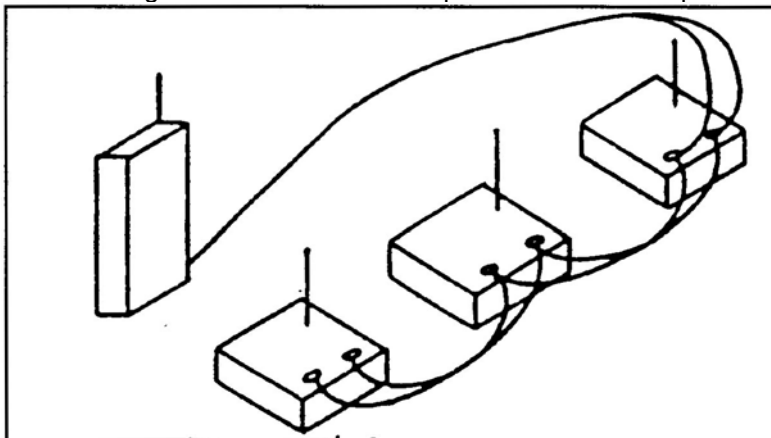

Figure 1. Hooking detectors in a hot loop.
**NOTE:** The receiver in the radio frequency (RF) mode can handle only 16 detectors.
- (1) The detector's maximum detection range is 10 meters.
- (2) The maximum distance that the detector can be from the receiver is 1,500 meters.
- (3) With the above two items in mind and the limited number of detectors normally available, care must be taken in selecting the installation sites of the detectors.
- (4) Because of other surveillance devices within a unit, such as night observation devices, infrared (IR) viewing devices, and thermal sights, PEWS should be used to cover areas the other devices cannot cover.
- (5) When a large area must be covered and a large number of detectors is available, detectors can be emplaced using the hot-loop method (maximum of 16 detectors per loop).
- (a) In the wire mode, the receiver can handle nine wires, but by connecting more detectors on each wire, or as many wires as needed, a much larger area can be covered. Figure 1 shows the correct procedure to hook up a hot loop.